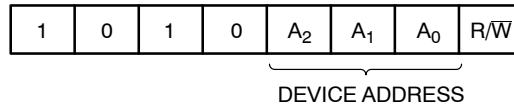

Figure 3. Slave Address Bits
The Master initiates data transfer by creating a START condition on the bus. The Master then broadcasts an 8-bit serial Slave address. The first 4 bits of the Slave address are set to 1010, for normal Read/Write operations (Figure 3). The next 3 bits, A₂, A₁ and A₀, select one of 8 possible Slave devices. The last bit, R/ $\overline{W}$, specifies whether a Read (1) or Write (0) operation is to be performed.